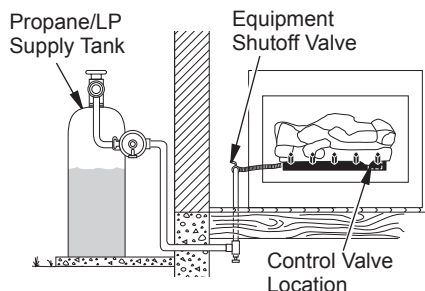
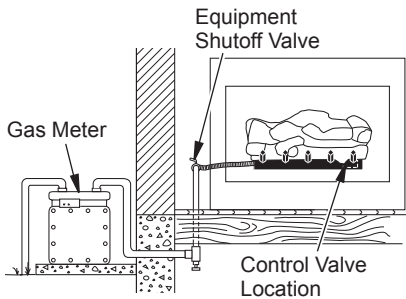

Figure 16 - Checking Gas Joints (Propane/LP Only)
Figure 17 - Checking Gas Joints (Natural Gas Only)
3. Check all joints from gas meter to equipment shutoff valve for natural gas or propane/LP supply to equipment shutoff valve for propane/LP (see Figure 16 or Figure 17, page 16). Apply noncorrosive leak detection fluid to all joints. Bubbles forming show a leak.
4. Check all joints from gas meter to equipment shutoff valve for natural gas or propane/LP supply to equipment shutoff valve for propane/LP (see Figure 16, page 16 or Figure 17). Apply noncorrosive leak detection fluid to all joints. Bubbles forming show a leak.